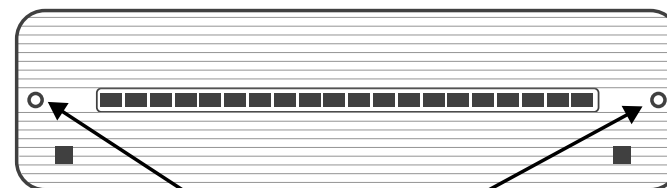

Fig 1
4. Remove two screws from the top of fitting (see Fig 1) to remove diffuser.